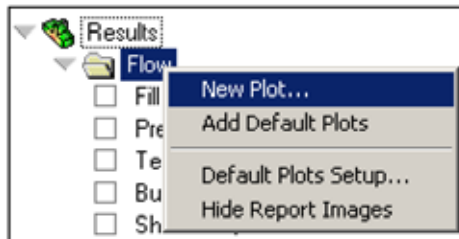

Figure 105: Create a new plot from the study tasks list
- Right-click in the Study Tasks list on the Results or folder icons and select New Plot, as shown in Figure 105.